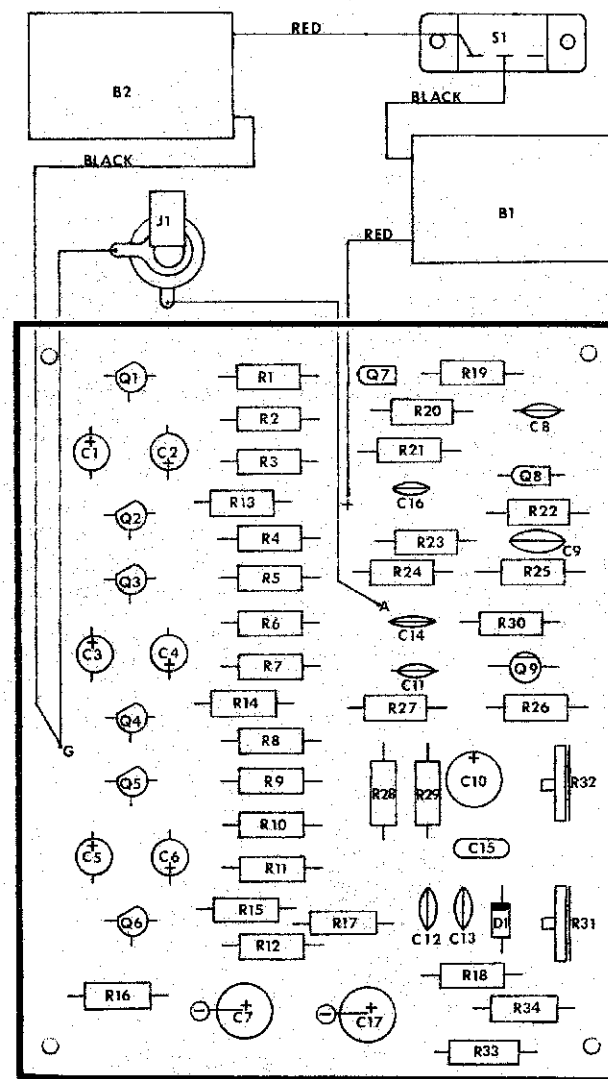

Figure 1
Solder each of the fixed resistors in place following the parts placement designators printed on the circuit board and the assembly drawing figure 1. Note that the fixed resistors are non-polarized and may be mounted with either of their two leads in either of the holes provided. Cinch the resistors in place prior to soldering by putting their leads through the holes and pushing them firmly against the board; on the conductor side of the board bend the leads outward to about a 45° angle. Clip off each lead flush with the solder joint as the joint is made.
- ( ) Strip 1/4 inch of insulation from both ends of a 4 inch length of #24 stranded wire and connect between the output jack and circuit board point "A" as shown in figure 1. Solder both connections.
- ( ) Strip 1/4 inch of insulation from both ends of a 3 inch length of #24 stranded wire and connect between the output jack and circuit board point "G" as shown in Figure 1. **DO NOT SOLDER THE CONNECTION AT POINT "G"**. Solder the connection at the output jack.